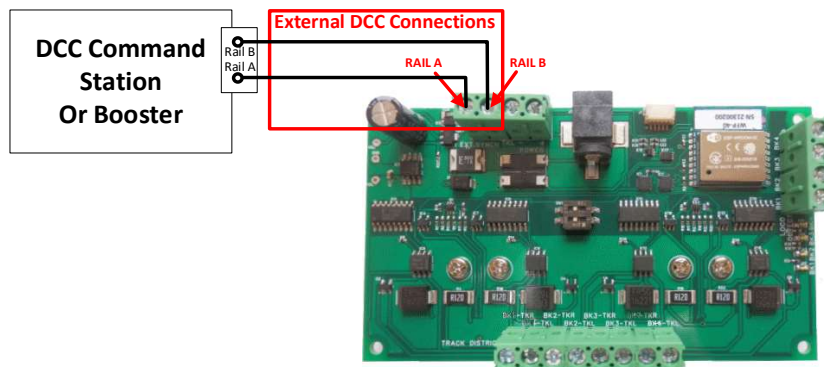

Figure 8 External DCC Connection
- (7) You can optionally connect a DCC Command Station or Booster to the Ext inputs as shown in Figure 8. Refer to the Tower Operator Help Pages to find out how to use this mode of working.